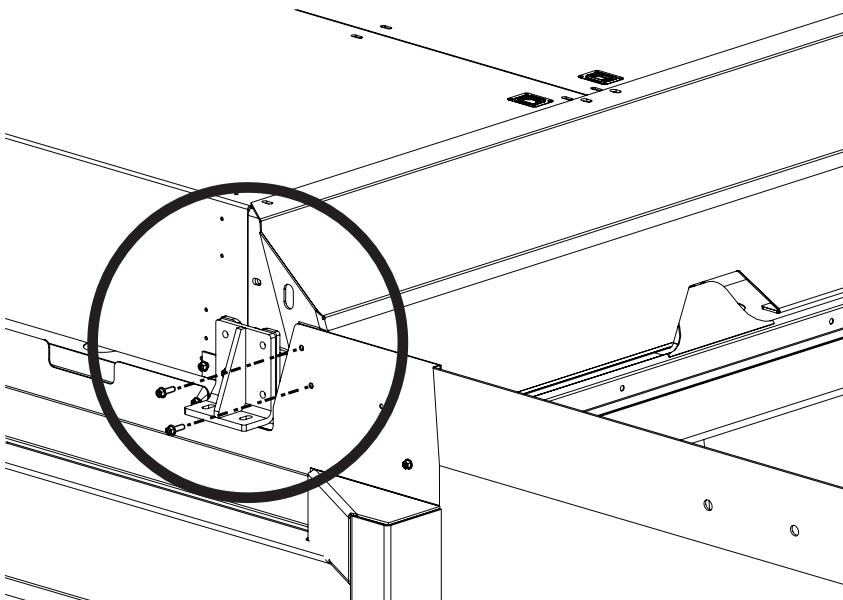

Figure 6
19. Reinstall two bolts and two nuts on each side of the refuse deflector weldment to secure the weldment to the windguards (Figure 6).